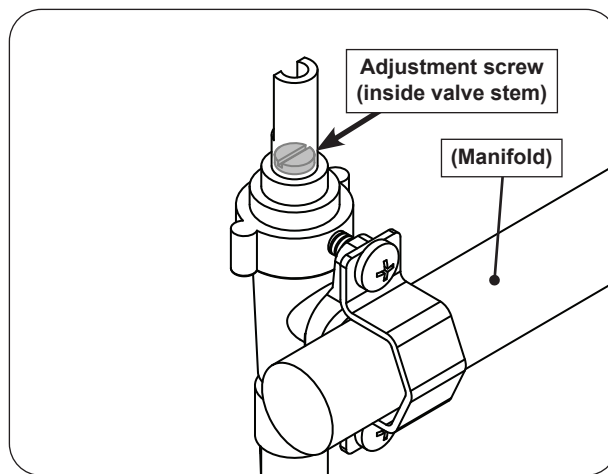

Fig. 40-1 Valve adjustment screw location
4. Locate the FLATHEAD adjustment screw found inside the valve stem (see Fig. 40-1).